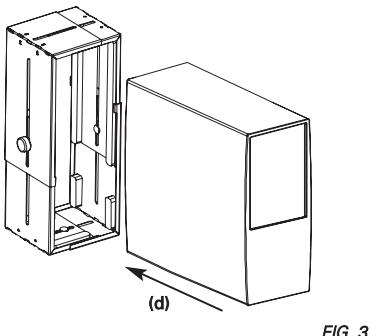

FIG. 3
4. Place CPU inside CPU450 (d) and resize so that it fits snugly around CPU. Tighten all three knobs. FIG. 3